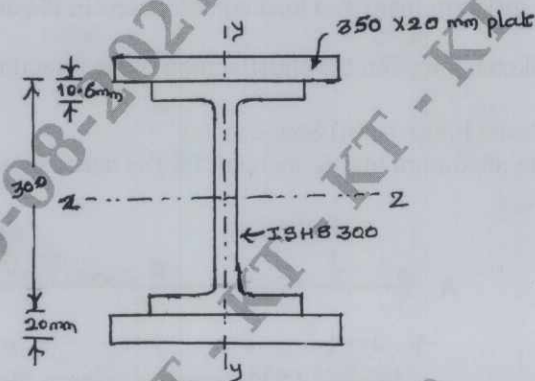

Fig.Q6
- 6 Calculate the compressive resistance of a compound column consisting of ISHB 300 with one cover plate of  $350 \times 20$  mm on each flange and having a length of 5m. Assume, that the bottom of the column is fixed and top is rotation fixed, translation free and  $f_y = 250$  MPa. Refer Fig.Q6.